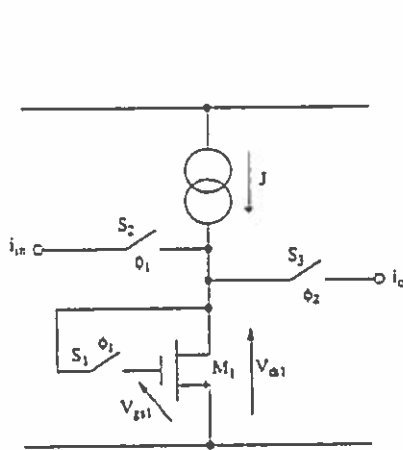

Figure 5.1
5. a) Figure 5.1 depicts a switched current memory cell.
i) State two limitations of the circuit shown in figure 5.1 and draw an improved schematic which compensates for these and has improved output resistance. [4]